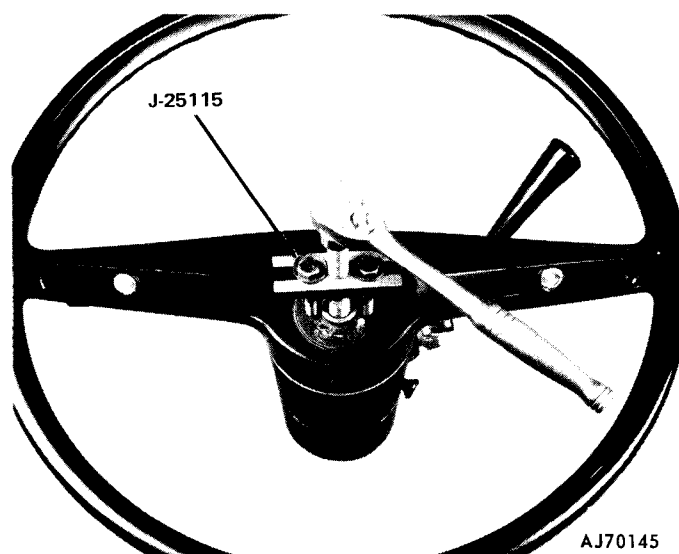

Fig. 11-1 Steering Wheel Removal—Typical
(4) Disconnect horn wire from switch in steering wheel cavity. Gently pull and wiggle connector to remove.
(5) Remove steering wheel nut and connector.
(6) Paint or scribe alignment marks on steering wheel and steering shaft for assembly reference.
(7) Remove steering wheel using Puller J-25115 (fig. 11-1).